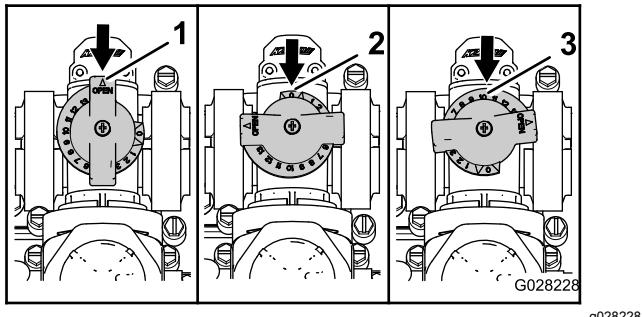

Figure 75
- The agitation bypass valve is in the full Open position as shown in A of Figure 75.
- The agitation bypass valve is in the Close (0) position as shown in B of Figure 75.
- The agitation bypass valve is in an intermediate (adjusted relative to the pressure gauge for the sprayer system) position as shown in C of Figure 75.